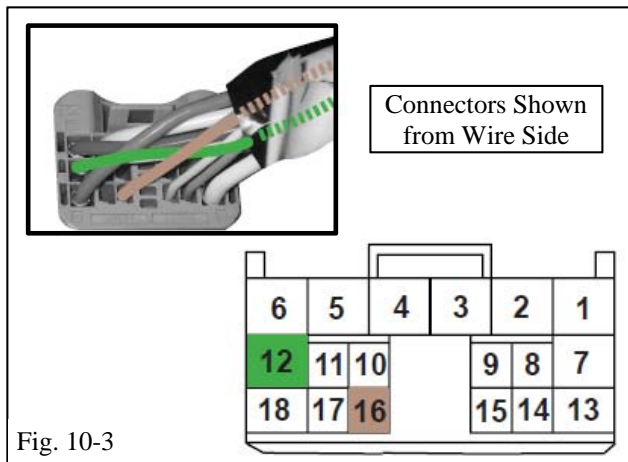

Fig. 10-3
**!** (1) Positive (+): Locate Pin 12 on the grey connector (GREEN wire) (Fig. 10-3).
**!** (2) Negative (-): Locate Pin 16 on the grey connector (BROWN wire) (Fig. 10-3).
(1) Crimp the BROWN wire of the sill plate harness to the BROWN wire of the vehicle harness (Fig. 10-3).
(2) Crimp the GREEN wire of the sill plate harness to the GREEN wire of the vehicle harness (Fig. 10-3).
(3) Wrap the two connections with one (1) foam pad.